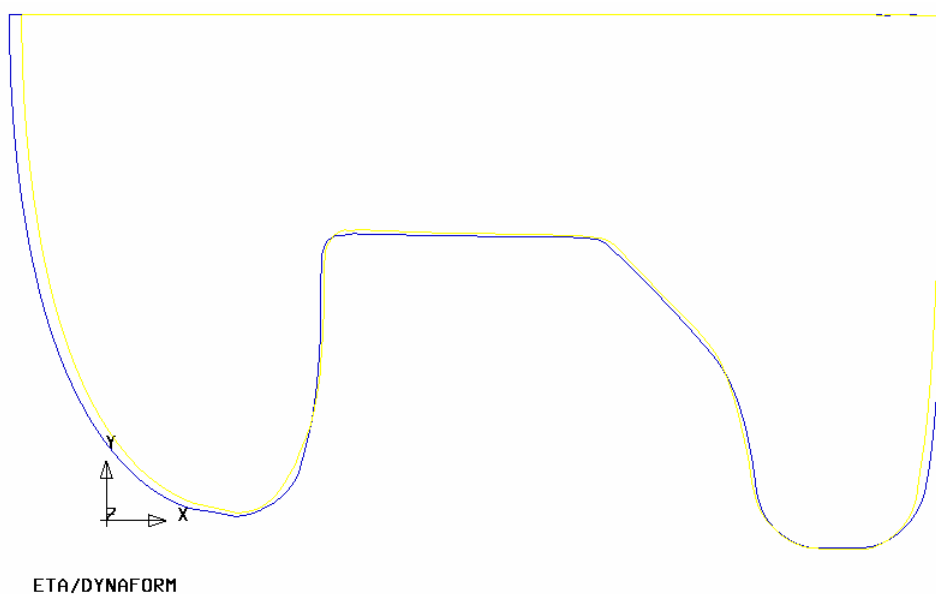

Figure 3.59: Illustration of blank unfold outline
6. Once the MSTEP evaluation ends, DYNAFORM automatically read in the resulting blank unfold outline and add it to a new part. As shown in the following figure 3.59, the closed yellow curve is the blank unfold outline, to which the draw bead is added.